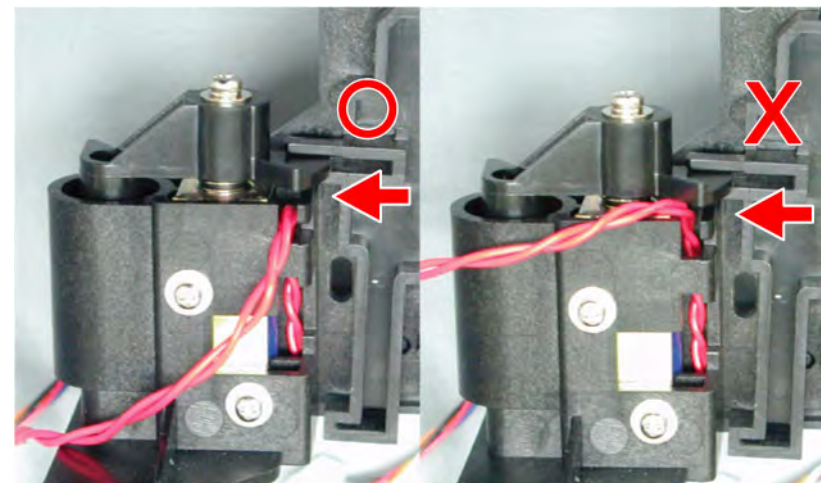

Figure 4-35. Take Care When Installing the Cutter Holder
- Take care not to catch the solenoid cable (red) in the cutter cap. (See Figure 4-35)